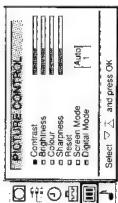

Fig. 28
- Press MENU and select on the screen the symbol □ for PICTURE CONTROL or □ for SOUND CONTROL, then press OK. The PICTURE CONTROL or SOUND CONTROL menu appears. (See Fig. 28 or Fig. 29.)